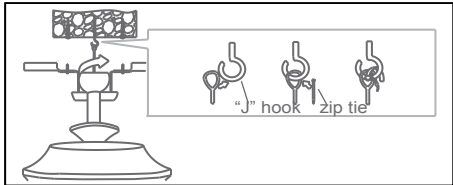

Fig. 7c
- For added security, attach the safety cable from the fan unit to the “J” hook in the outlet box. Secure by looping a zip tie through the safety cable and the “J” hook. Tighten the zip tie securely (Fig. 7c).